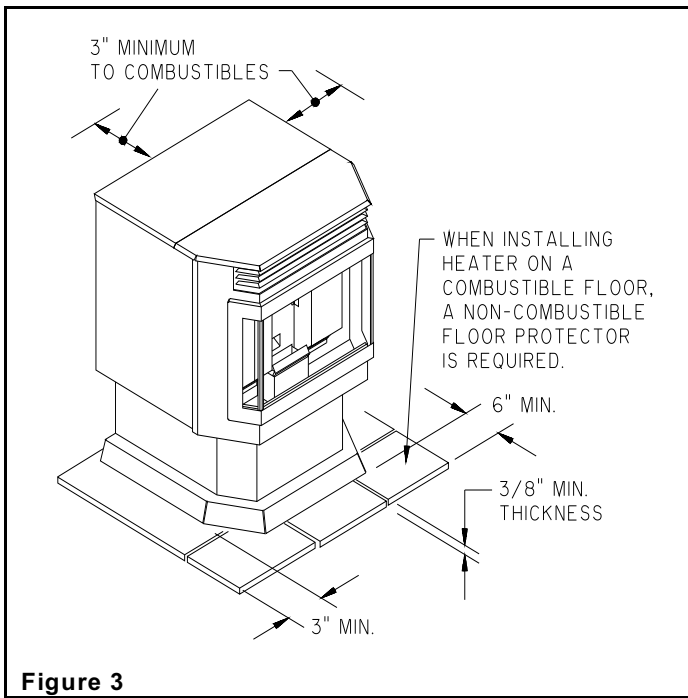

Figure 3
4. **A non-combustible hearth pad must be used if installed on a carpet, wood floor or other combustible material (see Figure 3).**
IMPORTANT: The Fire Pot must be seated flush and must sit even in the pot tray. Air leaking around the Fire Pot will create a poor burn (Figure 3). Light the pellets in Fire Pot using any approved pellet lighter.